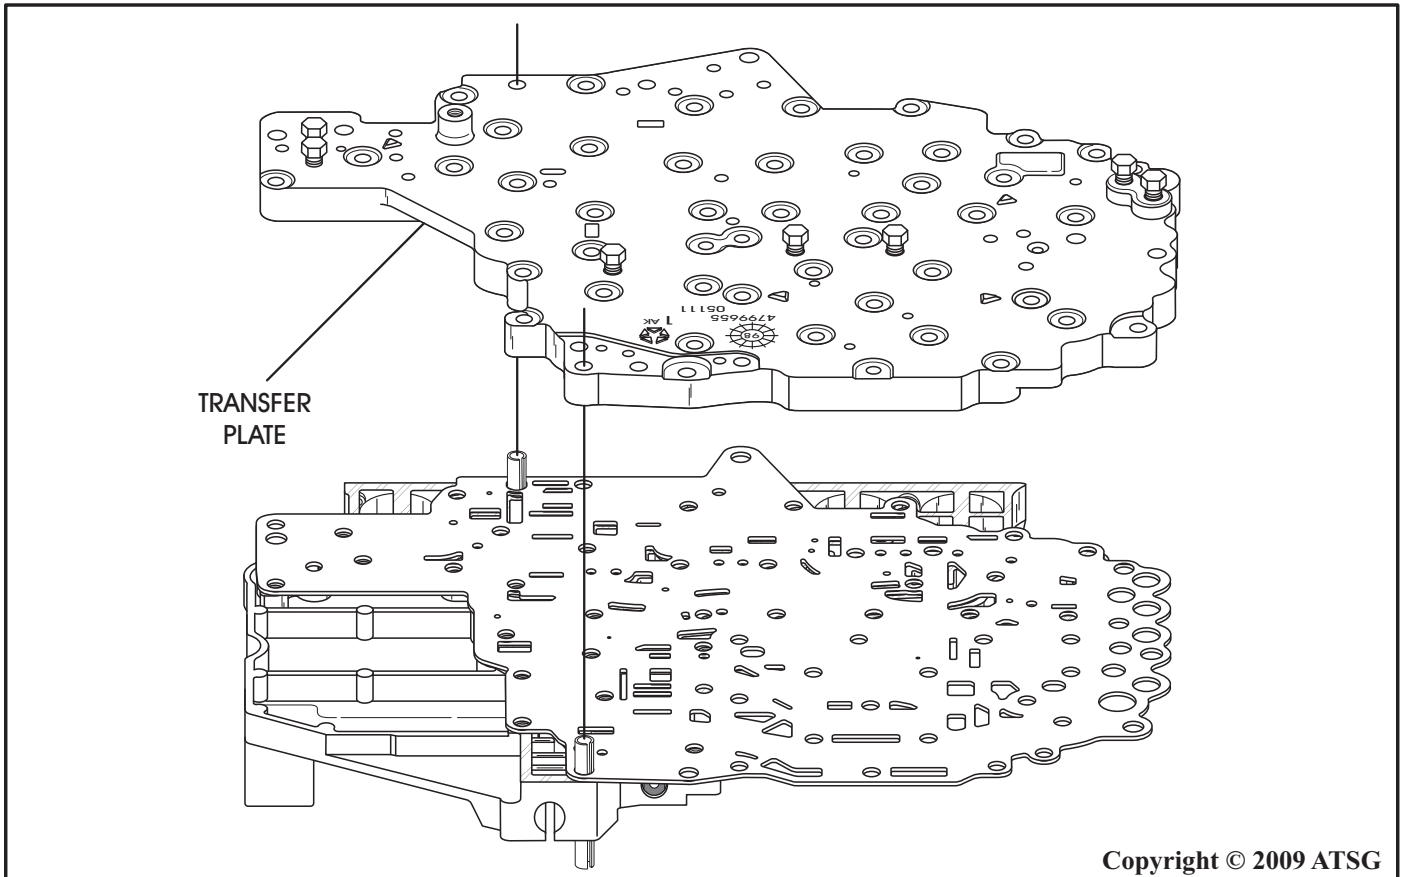

Figure 101
11. Install the transfer plate over locating dowels on the valve body as shown in Figure 101.